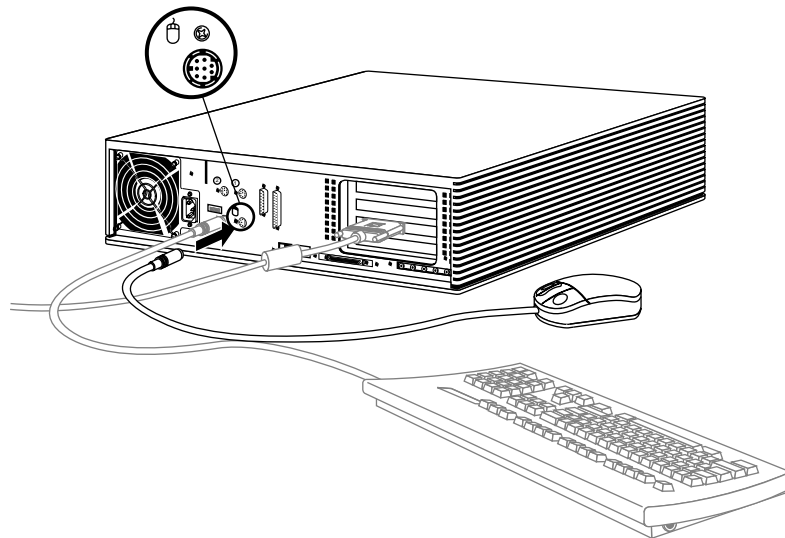

Figure 2-12 Connecting the Mouse Cable
3. Connect the mouse cable to the connector below the mouse icon on the back of the Indigo² IMPACT workstation, as shown in Figure 2-12.